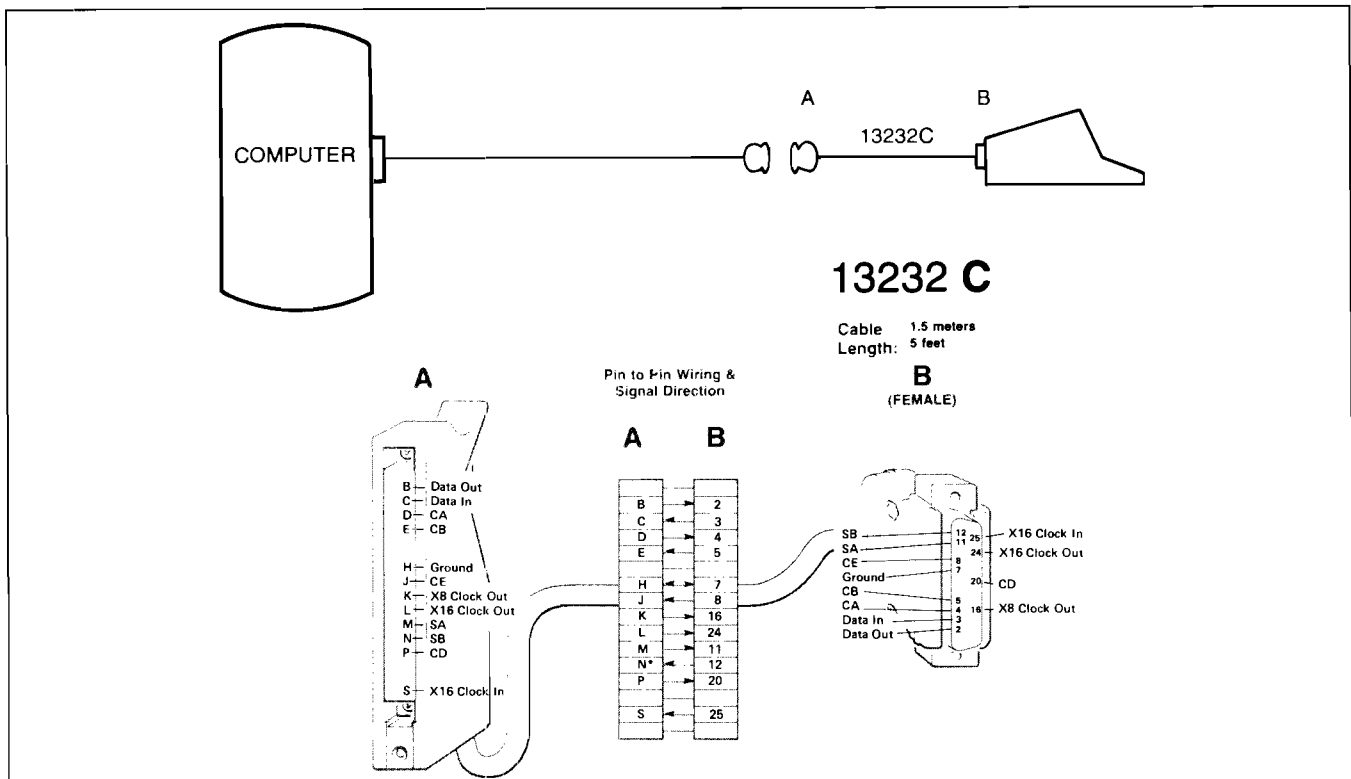

Figure 1-20. Point-to-Point Data Communications Cabling
For standard (i.e., not through a modem) point-to-point data communications cabling, refer to figure 1-20 and perform the following:
- Connect an HP 13232C cable to the Asynchronous Communications Interface PCA (part no. 02640-60086). Fabricate an RS-232-C cable to connect from the HP 13232C cable to your computer. Refer to figure 1-20 for the cabling information and to table 1-3 for information on fabricating your own cable.